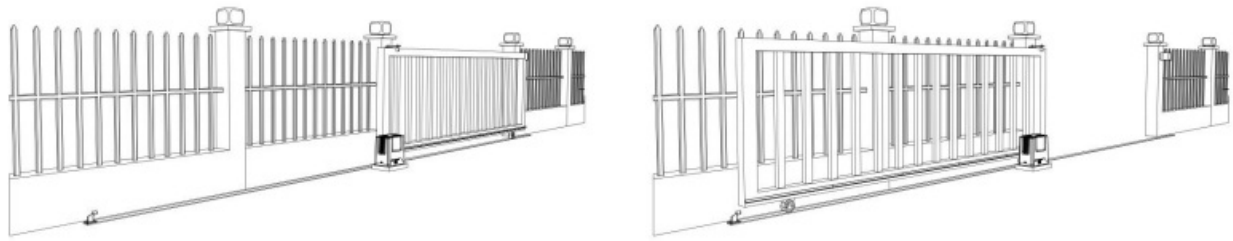

Figure 3
1. Mount the opener on the left-hand side (refer to Figure 3).
- If your gate needs to open from the other direction (to the left, refer to Figure 3), your opener needs to be mounted on the left-hand side as shown, and a qualified electrician will need to dial the number 4 dip switch(MOT.DIRECTION) to OFF. (Factory default setting is for right-hand opening: opener mounted on the right-hand side).